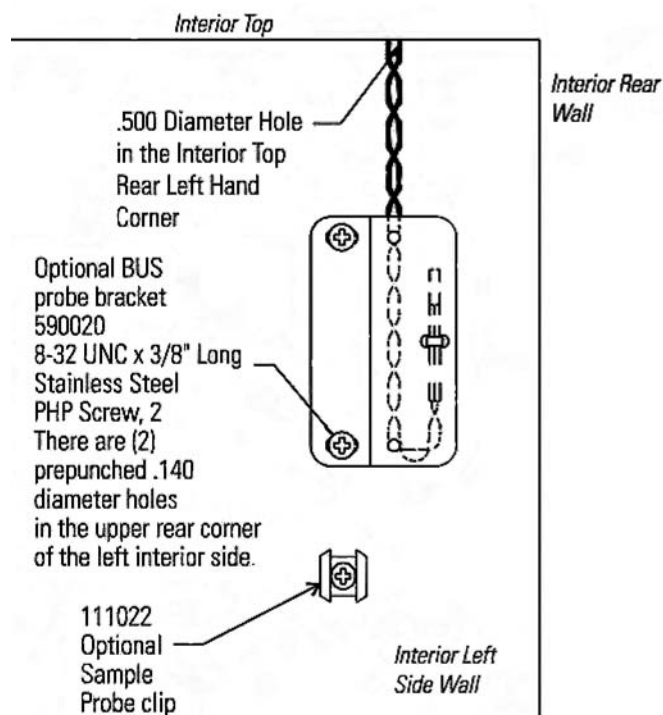

Figure 5-4. Bracket
1. Locate the 0.500" pre-punched hole in the upper left hand back corner of the chamber ceiling. Remove the tie wrap securing the coiled probe/solenoid harness. Uncoil the probe lead and run the probe tip (approximately 12") down through 0.500" porthole (Figure 5-4).
3. Tap #8-32 the two pre-punched holes located on the interior left wall of the freezer. Mount the bracket. Figure 5-4 shows the Back-Up probe mounted on the interior left side wall of the freezer.